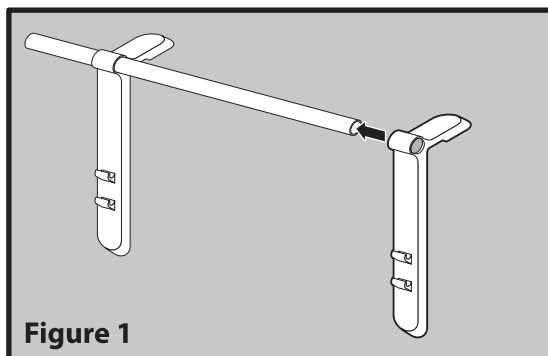

Figure 1
1. Take one of the tubes without holes and slide the two brackets on it so that the magnets are facing away (figure 1).